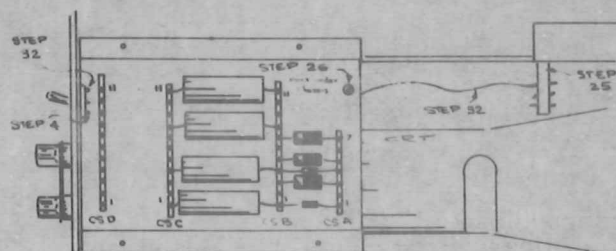

Fig. 3
- () 4. Unsolder the white wire connected to CSC-1 and resolder it to the left terminal (as seen from the front of the instrument) of the switch mounted in step 1 or 2. See Fig. 3.
- () 5. Solder the 7 in. white wire (from kit) between CSC-1 and the center terminal of the switch. See Fig. 3.
- () 25. Unsolder and temporarily remove the two white wires passing through the nylon post in Fig. 3.
- () 26. Replace this post with the 3-hole nylon post from the kit (see Fig. 3).
- () 28. Locate the 1-hole nylon post, mounted on the bottom of the F and I chassis above the neck of the CRT (see Fig. 3).